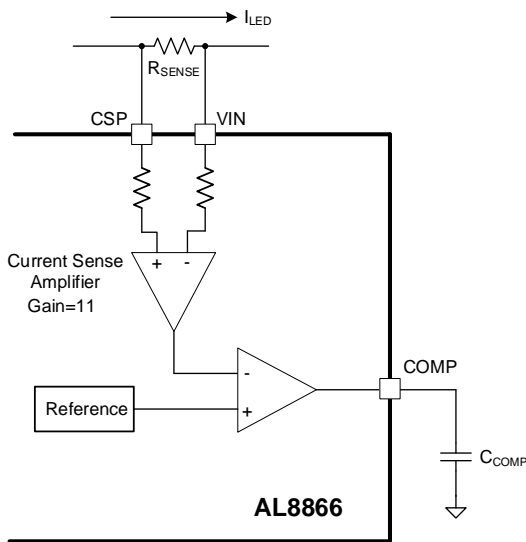
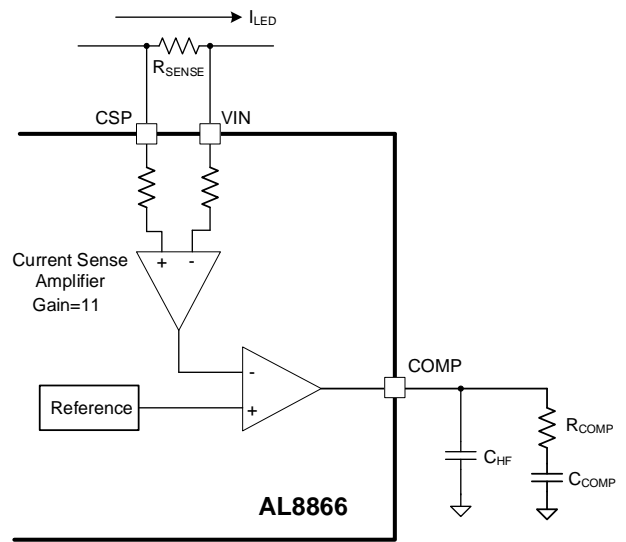

Figure 20 Integral Compensator
Figure 21 Proportional Integral Compensator
The feedback transfer function includes the current-sense resistor and the loop compensation of the transconductance amplifier. A compensation network at the output of the error amplifier is used to configure loop gain and phase characteristics. A simple capacitor, C_{COMP} , from COMP to GND (as shown in Figure 20) provides integral compensation and creates a pole at the origin. Alternatively, a network of R_{COMP} , C_{COMP} , and C_{HF} (shown in Figure 21) can be used to implement proportional and integral (PI) compensation to create a pole at the origin, a low-frequency zero, and a high-frequency pole.